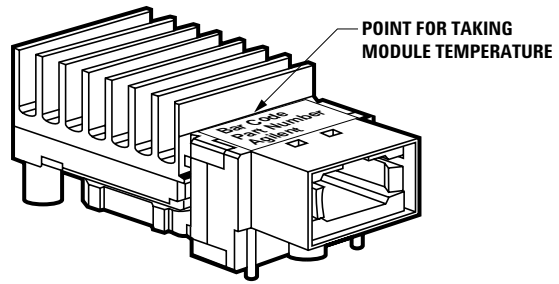

Figure 2 - Case temperature measurement
| Case Temperature | T_C | 0 | | +80 | °C | 2, Figures 2, |
2. Case Temperature is measured as indicated in Figure 2.